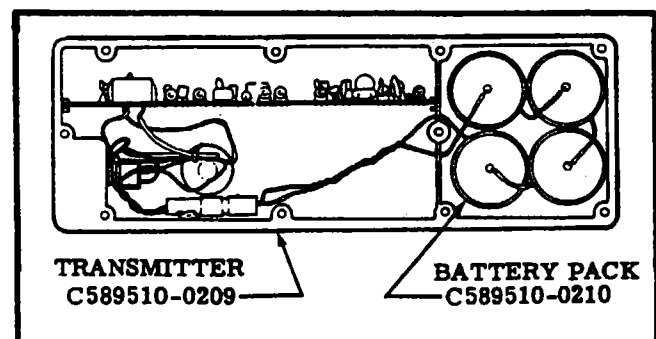

Figure 16-14. Lithium 4 Cell Battery Pack Installations
16-87. REMOVAL AND INSTALLATION OF LITHIUM FOUR (4) CELL BATTERY-PACK. (Refer to figure 16-14.)
- d. Place new battery-pack in the transmitter with four batteries as shown in the case in figure 16-14.
- e. Connect the electrical connector as shown in figure 16-14.